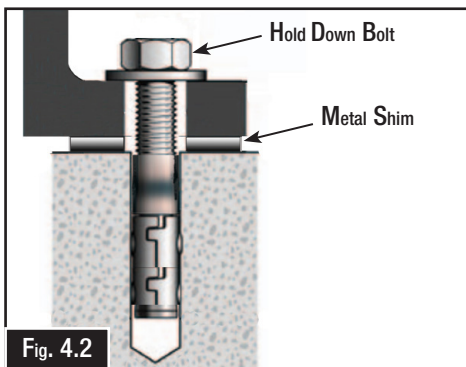

Fig. 4.2
After your machine has been anchored to a concrete slab floor, it then needs to be leveled. Loosen the hold down bolts and place a level on the surface of the working table. Metal shims need to be placed under the corner of the base of the machine until level. Once level then tighten the hold down bolts. (Fig. 4.2).
*The machine must not rest on supports other than those defined in Fig. 4.2*